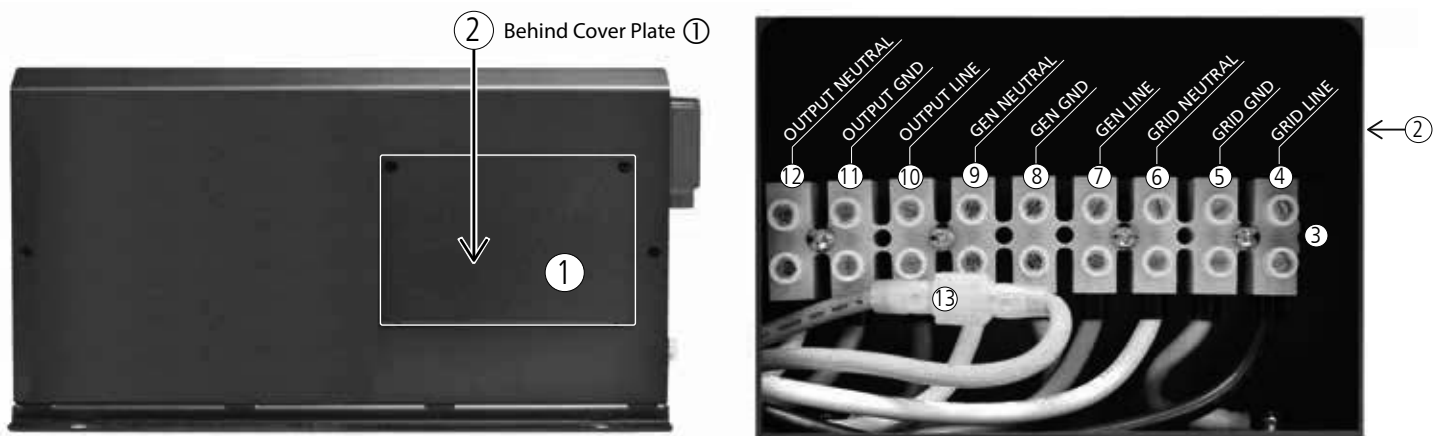

Fig 3.9 AC Input and Output
AC side layout and connection arrangement are shown in Fig 3.9.
#### LEGEND for Fig 3.9
- Disabling Neutral to Ground Bond: In some applications, the Output Neutral may be required to remain isolated from chassis/Ground at all times. For this, automatic Output Neutral to chassis Ground bond can be disabled by disconnecting the Male/Female Disconnect (*13, Fig 3.9*) located in the AC Wiring Compartment.
The AC input and output supply connections are located in a pocket protected by a cover with a removable front plate (1,2 Fig 3.9). Three 27.8mm / 13/32" diameter holes (10A to 10C, Fig 2.1) have been provided for cable / conduit entry. Remove the caps covering the holes and install appropriate 3/4" Trade Size Fitting for routing the AC input and output wires/conduits.
Screw down type of terminal block (3, Fig 3.9) is used for connecting the wires. The hole size for wire entry is 6 mm and set screw size is M4. It can accommodate conductors with solid or multi-stranded wire size range of AWG #6 to AWG #20.